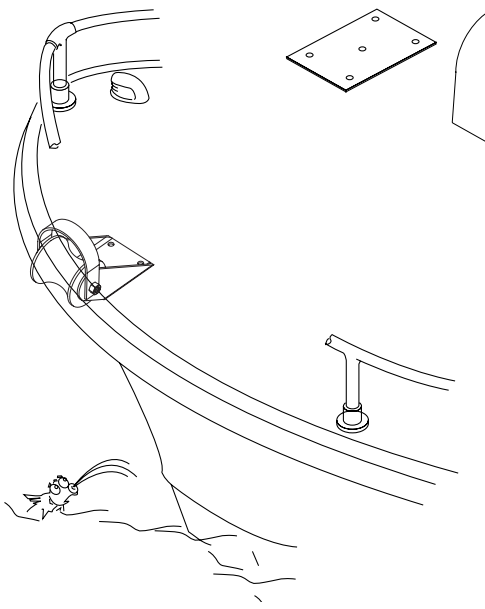

Figure 1. Pan Fisherman Mounting
8. Spot and drill the holes as shown on the template. There are four 5/16" mounting holes and one 5/16" hole for the motor leads. See Figure 1.
The anchor winch can be mounted on the fore (front) or the aft (rear) of the boat. It is important that the supplied anchor roller line up with the centerline of the rope spool for proper operation. To mount the anchor winch, refer to Figure 1 and follow the procedures outlined below.